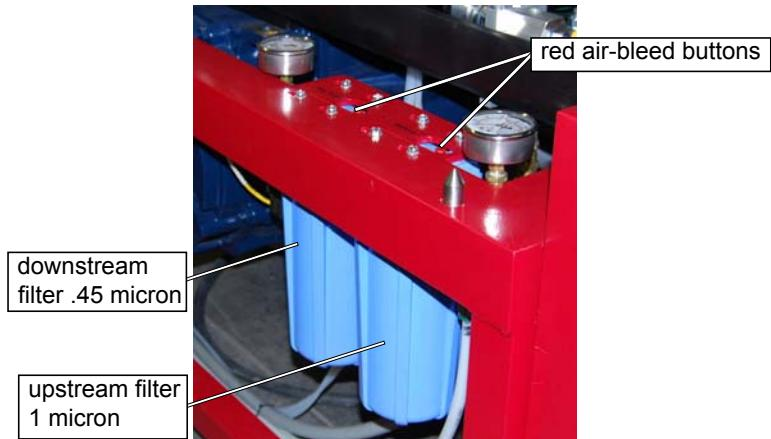

Figure 4-9
2. When the Charge Pump is turned ON, water from the charge pump is fed to the two 10" filters in the pump cabinet (Figure 4-9).
10. Hold down the red buttons on top of the filters next to the pressure gauges (Figure 4-9) to bleed air from the filters.